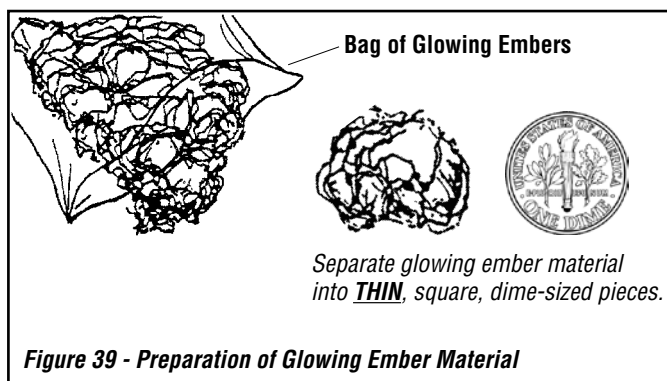

Figure 39 - Preparation of Glowing Ember Material
- Separate some of the glowing ember material into pieces **about the size and thickness of a dime** (see **Figure 39**). Keep the pieces fluffed up, not matted.